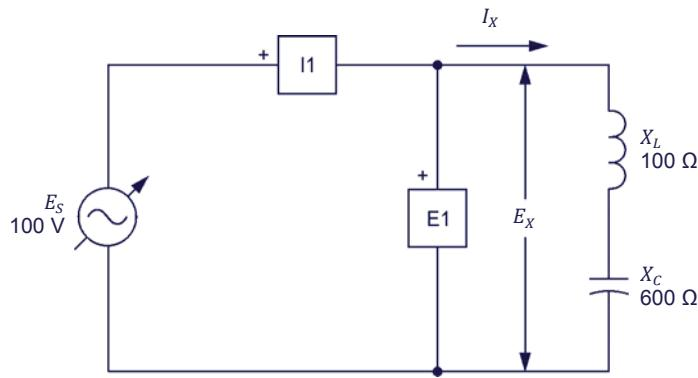

Figure 2-17. Series ac circuit containing an inductor and a capacitor.
- 16.** Make the necessary switch settings on the Inductive Load and Capacitive Load (or on the Inductive and Capacitive Loads) in order to obtain the values of inductive reactance  $X_L$  and capacitive reactance  $X_C$  indicated in the circuit of Figure 2-17.